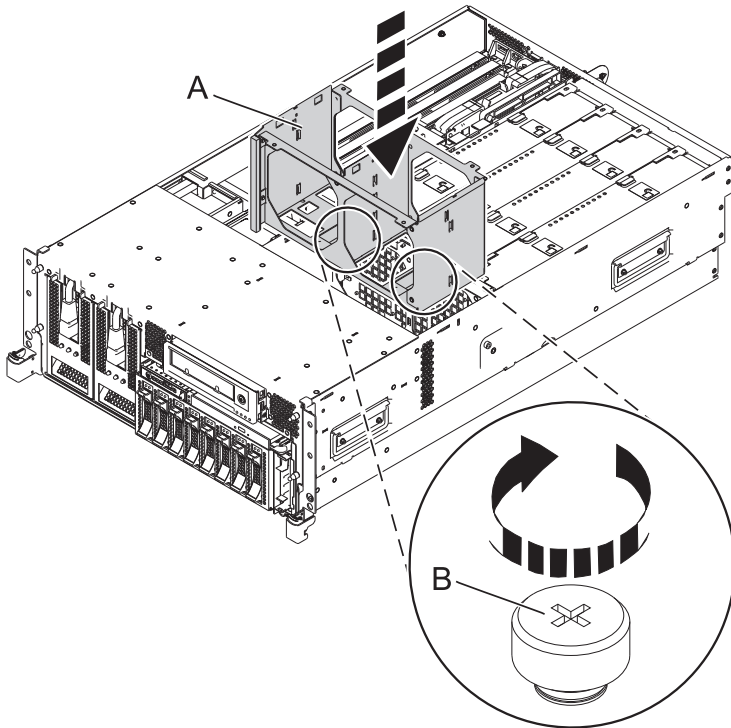

Figure 19. Replacing the fan cage
9. Replace the Slimline media device by inserting it into the slot and pushing it in until the lever (B) locks into place, as shown in the following figure.
- a. To replace the fan cage (A), align the locator pins through the holes, and tighten the two thumbscrews (B), as shown in Figure 19.